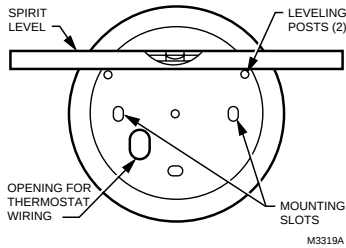

Fig. 1. Leveling wallplate or subbase with spirit level.
1. Use spirit level to accurately level the wallplate or subbase; see Fig. 1. Inaccurate leveling can cause thermostat control deviation.
- 3. Level according to Fig. 1; then tighten screws.